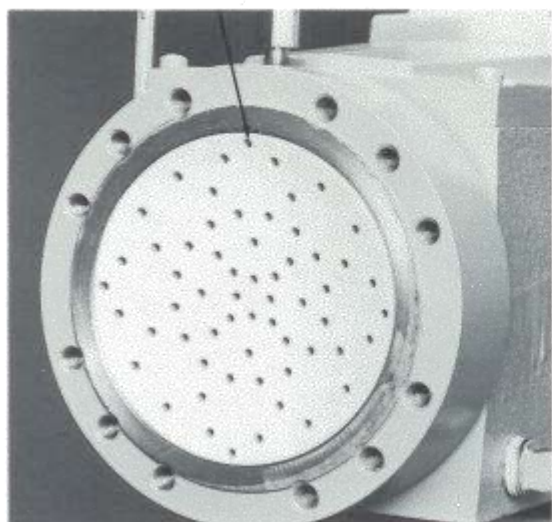

FIGURE 4.
13. Before mounting the reagent head make sure the pump head dish plate is seated in the head with the concave cavity facing the diaphragm, and one of the four holes closest to the edge of the dish plate is at the top of the pump head (Figure 4). This assures that any gases are vented out of the dish cavity.